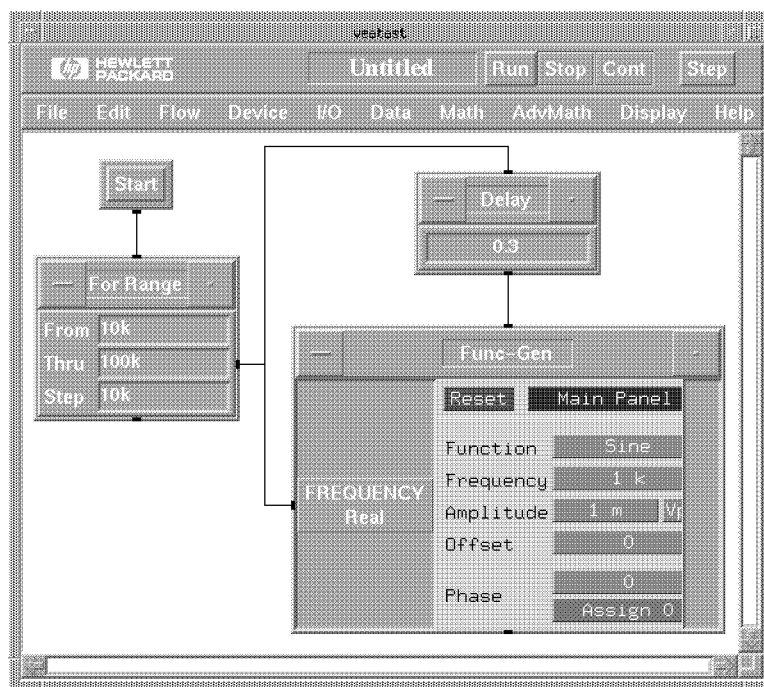

Figure 4-5. Instrument Example
4. Connect the model as shown in the Figure 4-5.